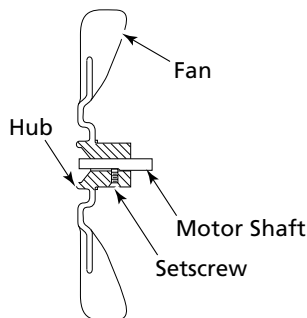

Figure 7 - Fan Cross Section
6. Replace fan blade on motor shaft. Make sure setscrew is touching back of flat surface on motor shaft (See Figure 7).